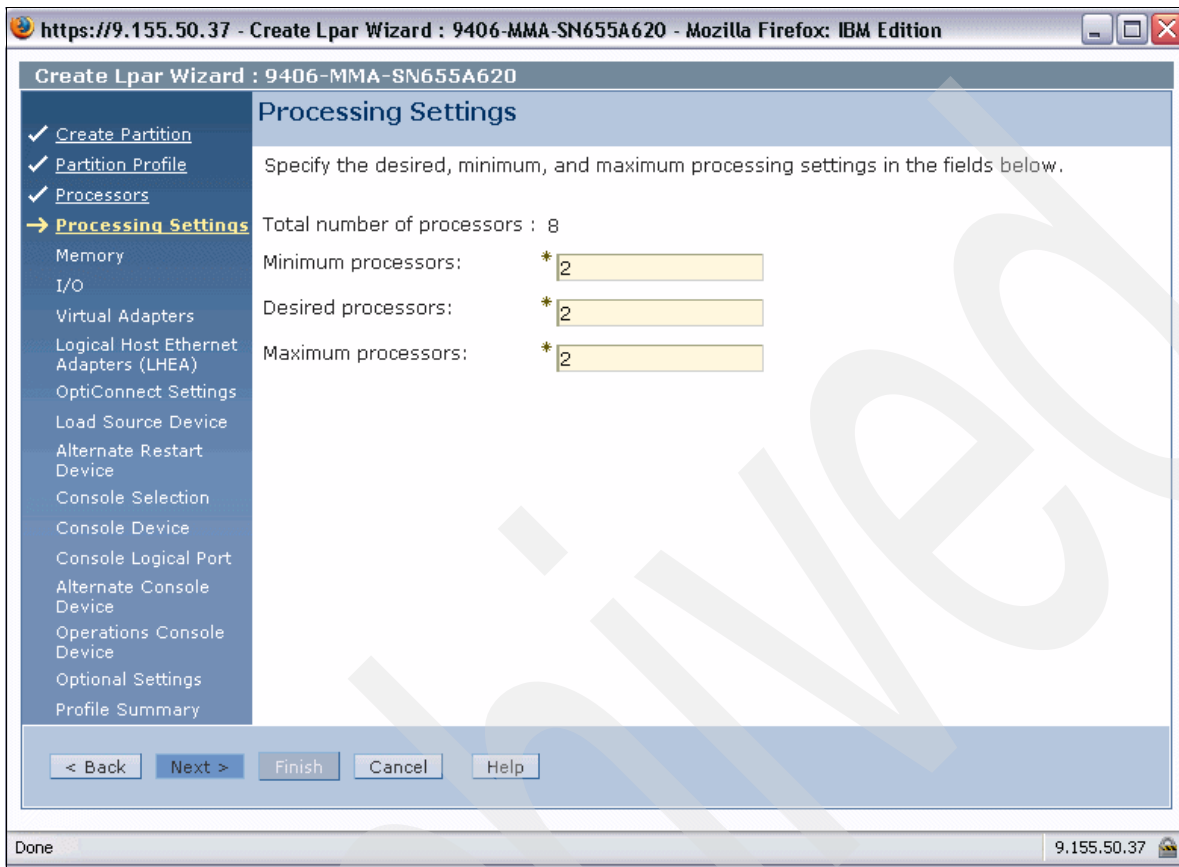

Figure 6-25 Create LPAR Processing Settings dialog
5. We like to have two dedicated processors for our IBM i client partition so we enter the value of 2 for the minimum, desired, and maximum processors settings and click **Next** to proceed, as shown in Figure 6-25.